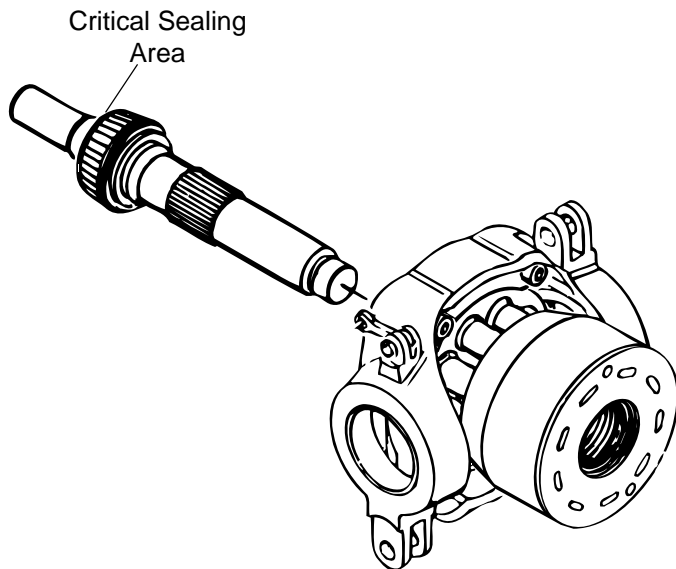

Figure 20
**Caution:** Do not damage the sealing area of the shaft, see figure 20. The shaft sealing area is between the bearing journal and the key way or splined end of the shaft. This area is extremely critical.